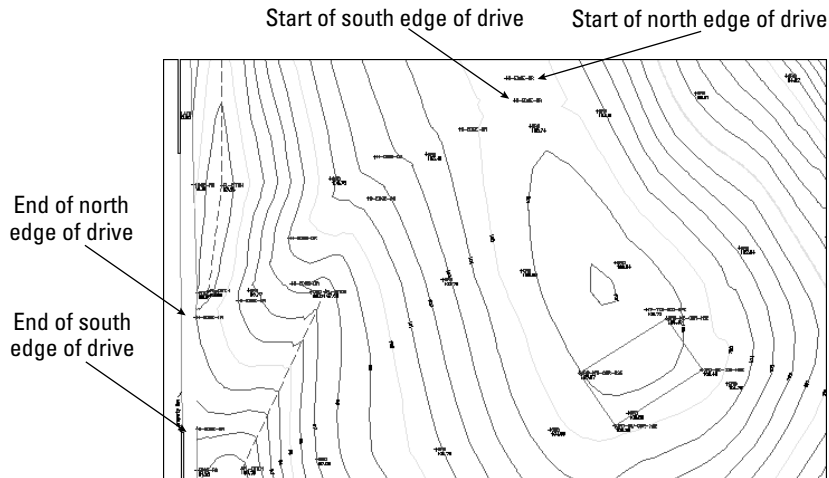

**Figure 16-6:** A topographical site map. You can complete the gravel road based on surveyor's data.
2. Save the file as `ab16-03.dwg` in your AutoCAD Bible folder. This is a topographical site map, shown in Figure 16-6. OSNAP should be on. Set a running object snap for insertion.
4. At the **Specify first point** or **[Object]:** prompt, use the **Insertion** object snap to pick the cross at the start of the north edge of the drive, as shown in Figure 16-6. Continue to pick the crosses marked **N-EDGE-DR**. Choose **Pan** from the **Standard** toolbar (or choose **View** ⇄ **Pan** ⇄ **Realtime**) to do a real-time pan when you reach the edge of the display. Press Esc. Continue picking points until you get to the end of the north edge of the drive, as shown in Figure 16-6. Press Enter to endpoint selection.
6. Start the SPLINE command again and pick points for the south edge of the drive, from the start of the south edge of the drive to the end, as shown in Figure 16-6. Pan as necessary. Again, press Enter to accept the default directions for the start and end tangents.